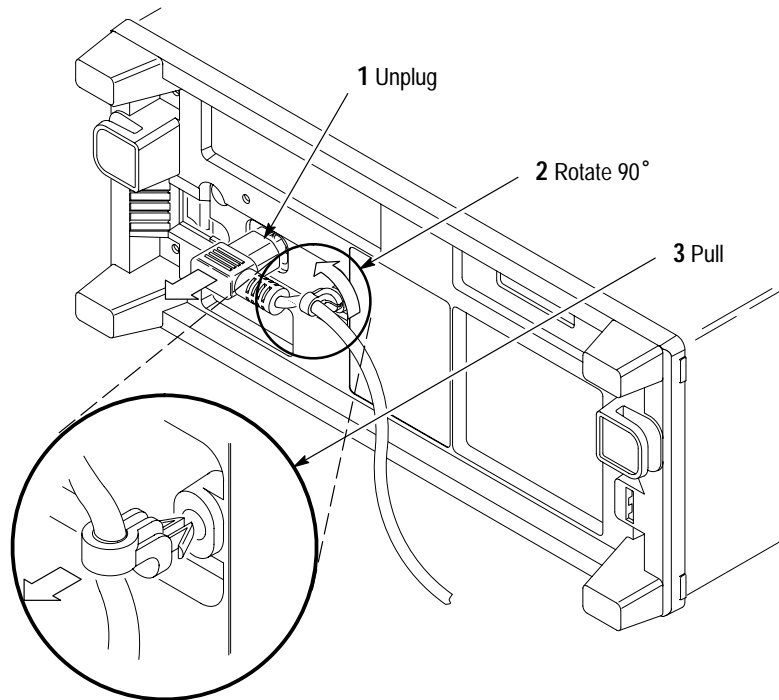

Figure 3: Line Cord Removal
- b. *Unplug and detach cord:* Follow the instructions in Figure 3.